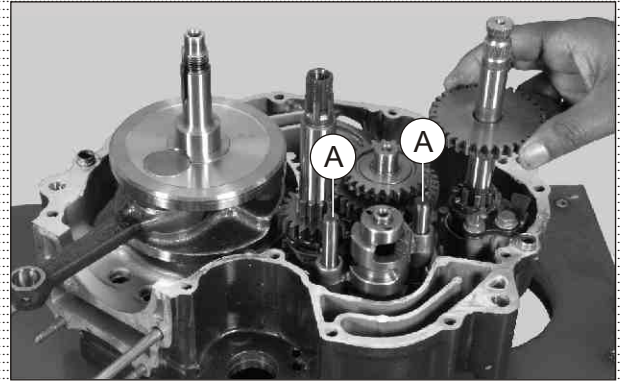

Fig. 3.180
- Assemble cam gear shift in the crankcase assembly and locate the shift forks on their respective grooves of the cam gear shift. (Fig. 3.180)
- Assemble shaft shift forks (2 nos) (A) in the crankcase assembly through shift forks. (Fig. 3.180)